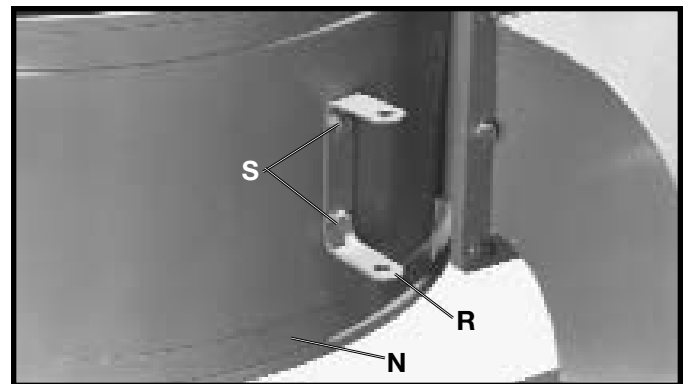

Fig. 14
9. Assemble "U" bracket (R) Fig. 14, to side of drum (N). Place a 5/16" lockwasher then a 5/16" flat washer onto the 5/16-18x5/8" hex head screw. Insert the hex head screw through the hole (S) in the "U" bracket and the hole in the drum, thread a 5/16-18 hex nut onto the screw and tighten securely. Repeat this process for the remaining hole.